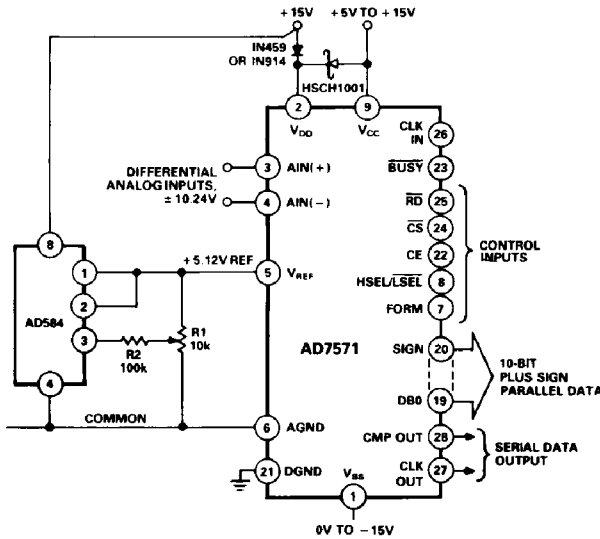

Figure 16. AD7571 Operational Diagram (see Table I for Pin Function Description)
- SUPPLY SEQUENCING:** Do not allow V_{CC} to exceed V_{DD} . In cases where V_{CC} could exceed V_{DD} , the diode protection scheme shown in Figure 16 is recommended.